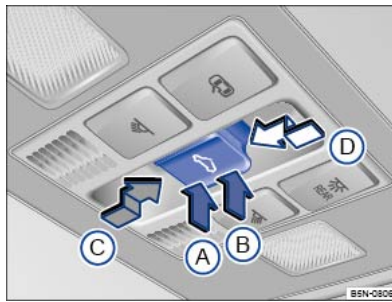

Fig. 76 In the roof: button for the glass roof.
- **Tilting the glass roof:** push the button ⇒ Fig. 76 Ⓞ to position 1. One-touch function: push button Ⓞ to position 2.